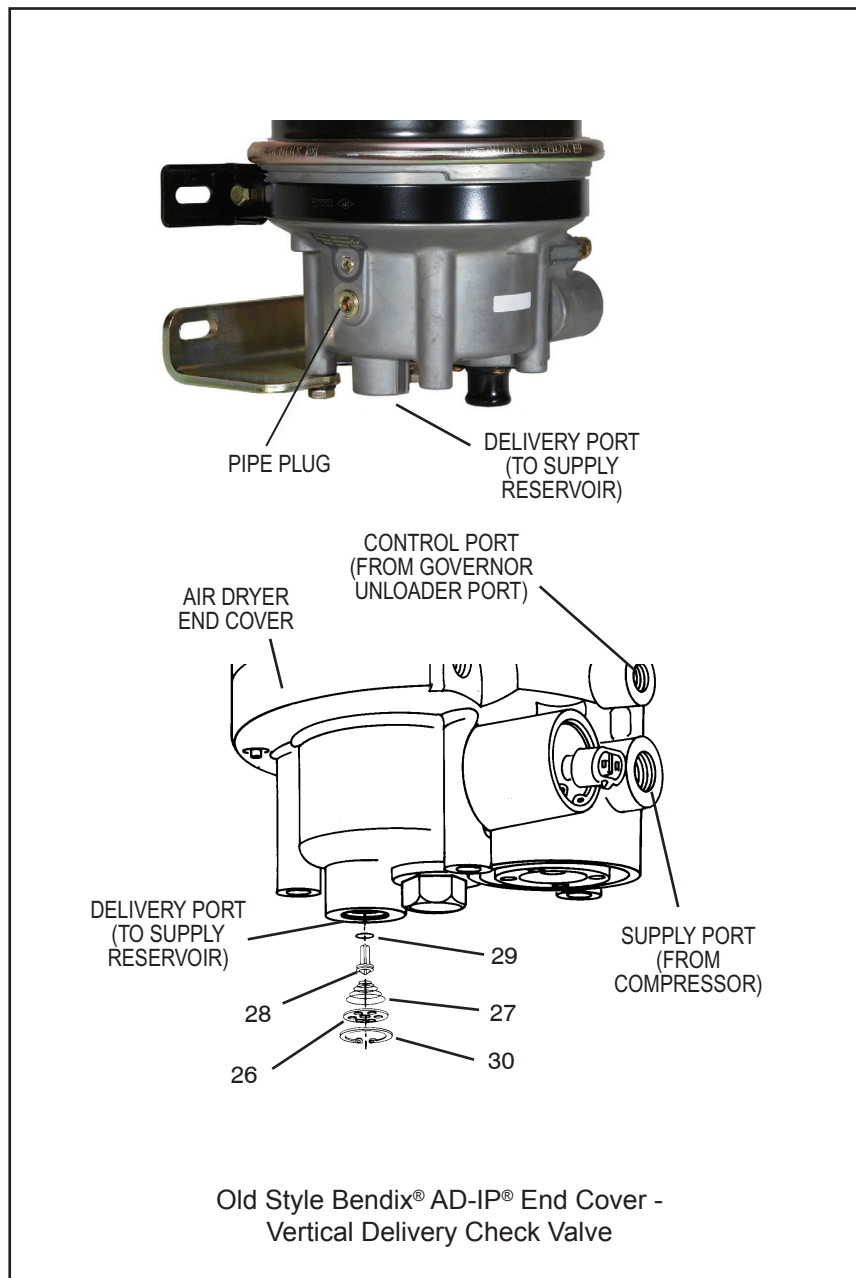

FIGURE 9 - BENDIX® AD-IP® AIR DRYER INTERNAL COMPONENTS – VERTICAL DELIVERY CHECK VALVE
Reference Figure 9
2. Using a 9/16" wrench, install the safety valve assembly (22) into the end cover (6).
3. **Vertical check valve models:** See *Figure 9*. Install the o-ring (29) on the check valve body (28) and push the o-ring down, over the 3 guide lands until it is in the o-ring groove of the check valve body (28). Install the check valve spring (27) on the check valve body so that the **small** coils of the spring slip over the check valve body. Install the assembled check valve body, o-ring, and spring (27, 28 & 29) in the end cover (6) so that the o-ring rests on its seat in the end cover (6) and the spring is visible. Install the perforated plate (26), in the end cover (6) and secure the check valve assembly using the retaining ring (30). Make certain the retaining ring is fully seated in its groove in the end cover (6).
4. **Horizontal check valve models:** Install o-ring (2) onto check valve (25). Place the check valve in the delivery check valve port of the end cover (6). Install the spring (24) over the delivery check valve (36) and secure with the delivery check valve plug (23).
5. Install the o-ring (19) on the heater and thermostat assembly (21). After making certain the sponge rubber cushion is positioned between the connector body and thermostat, gently push the heater and thermostat assembly (21) into the end cover (6), making certain the heating element enters the small diameter bore in the larger heater and thermostat bore in the end cover (6). Secure the heater and thermostat assembly in the body using the retaining ring (20). Make certain the retaining ring is fully seated in its groove in the end cover (6).
6. Lubricate the o-rings (12 & 13) and install them on the desiccant cartridge bolt (10) and using a twisting motion, insert the assembled desiccant cartridge bolt in the end cover (6).
7. Install the desiccant cartridge (11) on the end cover (6) making certain the cartridge is properly seated and flush on the end cover.